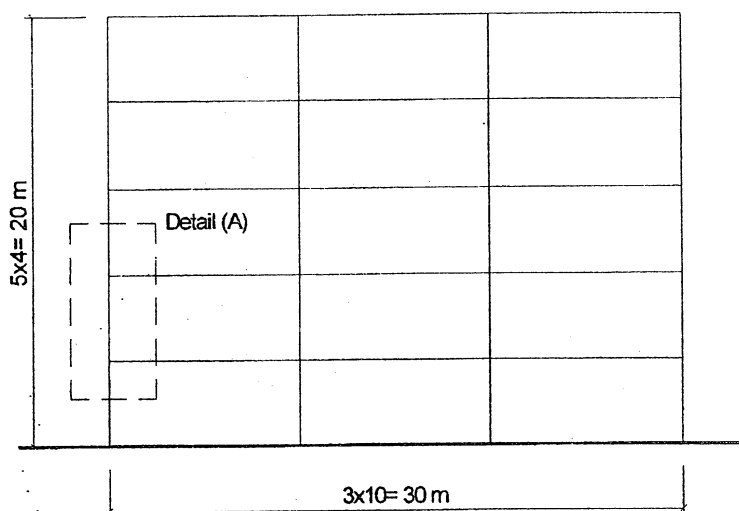

Figure 3
Typical detail (A) in figure 3 shows a part of reinforced concrete frame. It is required to draw reinforcement details of Detail (A) to satisfy the earthquake requirement code, assuming the following: